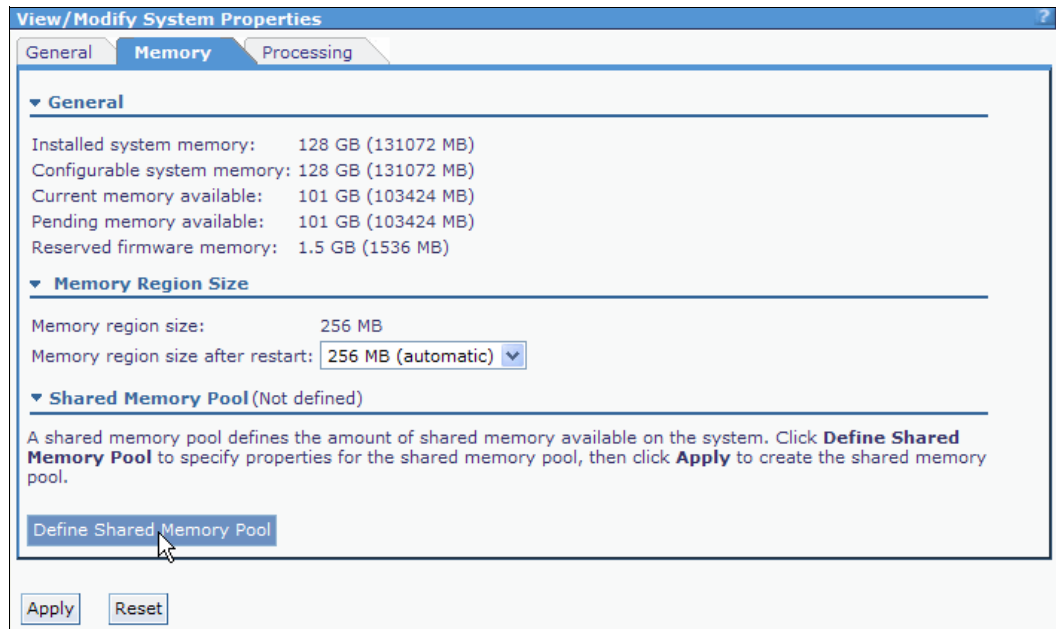

Figure 4-21 Defining Shared Memory Pool
2. In the work area, the View/Modify System Properties window opens. Click **Define Shared Memory Pool**, as shown in Figure 4-21.